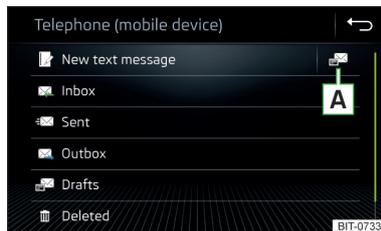

Fig. 185
- ▶ In the *Telephone* main menu, tap on the function surface  and the main menu for text messages will be displayed » Fig. 185.
- ▶ In the main menu of the text messages, tap on function surface  » Fig. 185 on page 164.